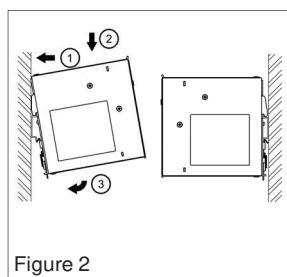
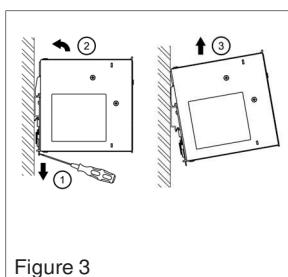

Figure 2
Figure 3
3. Mounting and dismantling (Fig. 2, Fig. 3)
1. Tilt the unit slightly upwards and put it onto the DIN rail. Snap on the DIN rail as shown in Fig. 2.
5. To uninstall, pull or slide down the latch as shown in Fig. 3. Then, slide the PSU in the opposite direction, release the latch and pull out the PSU from the rail.